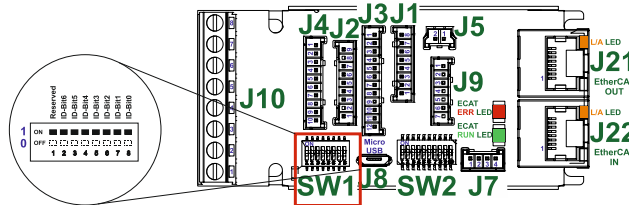

Figure 3.32. SW1 – Axis ID pins for EtherCAT
To recover from this behavior, the setup table can be invalidated by connecting all digital Hall inputs to GND, as shown in Figure 3.32.
- Hardware2 – by temporary connecting all digital Hall inputs to GND, during the power-on for about 1 second, until the green LED is turned on, as shown in **Figure 3.32**. This option is particularly useful when it is not possible to communicate with the drive.